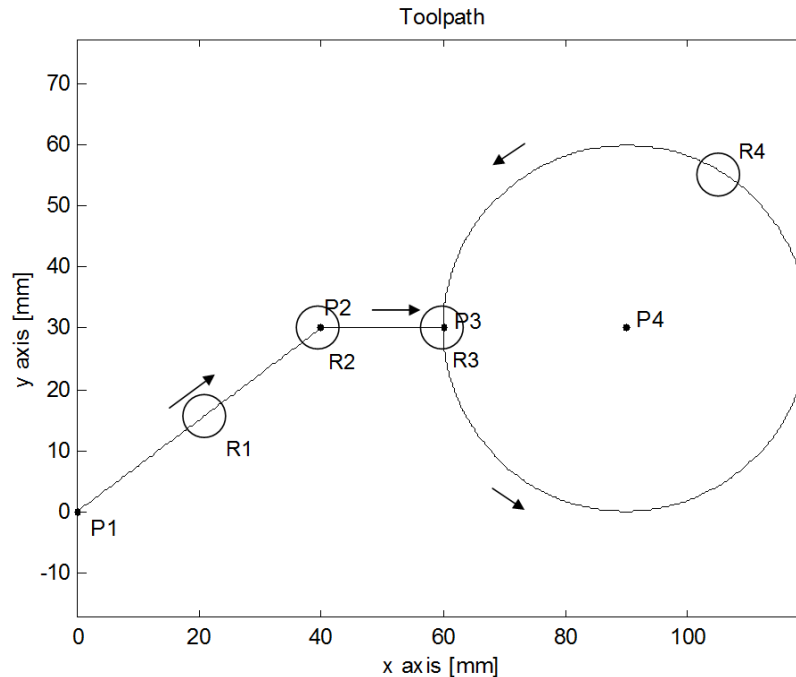

Figure 1: Reference toolpath to be used in contouring performance evaluation.
A sample toolpath is shown in Figure 1, comprising two linear segments and a full circle. The coordinates of the segment end points are P1(0,0) [mm], P2(40,30) [mm], and P3(60,30) [mm]. The center of the circle is P4(90,30) [mm]. Read the entire handout before starting to work on the prelab.
For the line-circle trajectory (Figure 1), carry out the following analyses. Merge figures where possible, and keep corresponding plots together. Do not provide plots of the entire toolpath or axis commands since no useful details can be observed. Include zoomed-in sections, as requested in the following questions. You can write the names and draw arrows to mark different overlaid graphs.
**E.2.** Plot the simulated tool motion ( $x$  vs  $y$ ) for the three cases of control system (part B.1) on top of the reference toolpath (all in one plot). Zoom into the critical regions R1, R2, R3, and R4 shown with circles in Figure 1. Approximately measure the largest value of the predicted contour error, and comment on the effect of bandwidth on contouring accuracy. Note that contouring error is defined for the toolpath (and not axes) and determined based on only the geometry (maximum deviation from the desired path). Unlike tracking error, contouring error is independent of time.